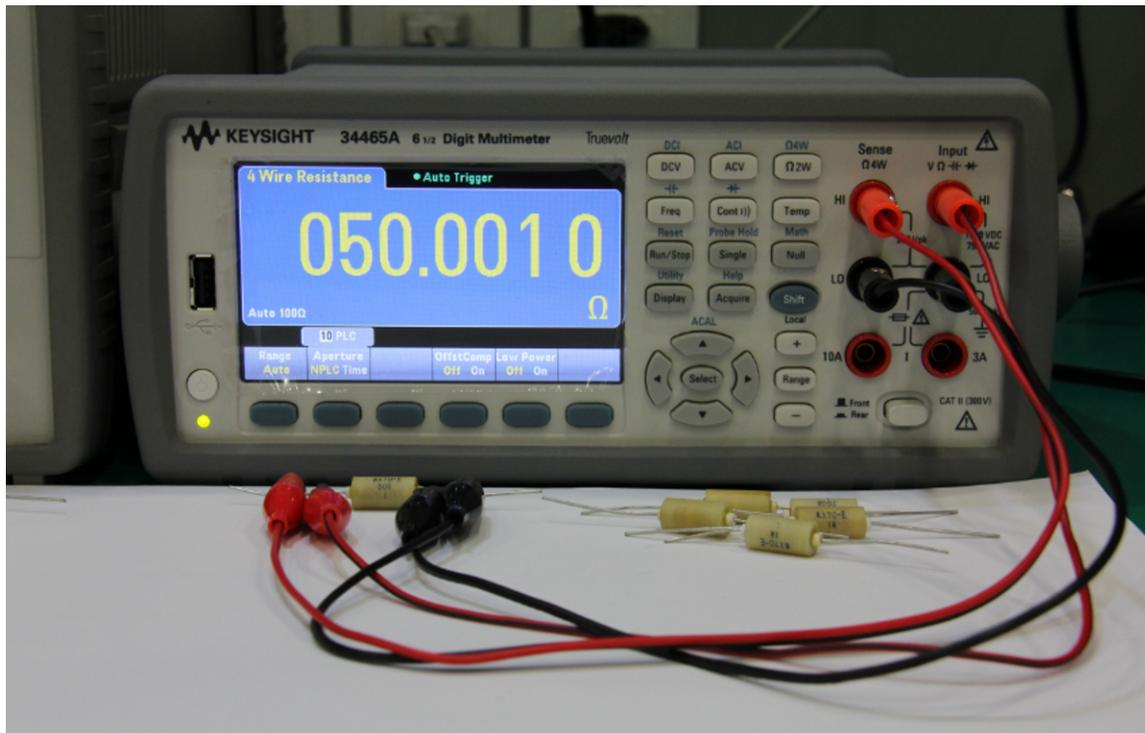
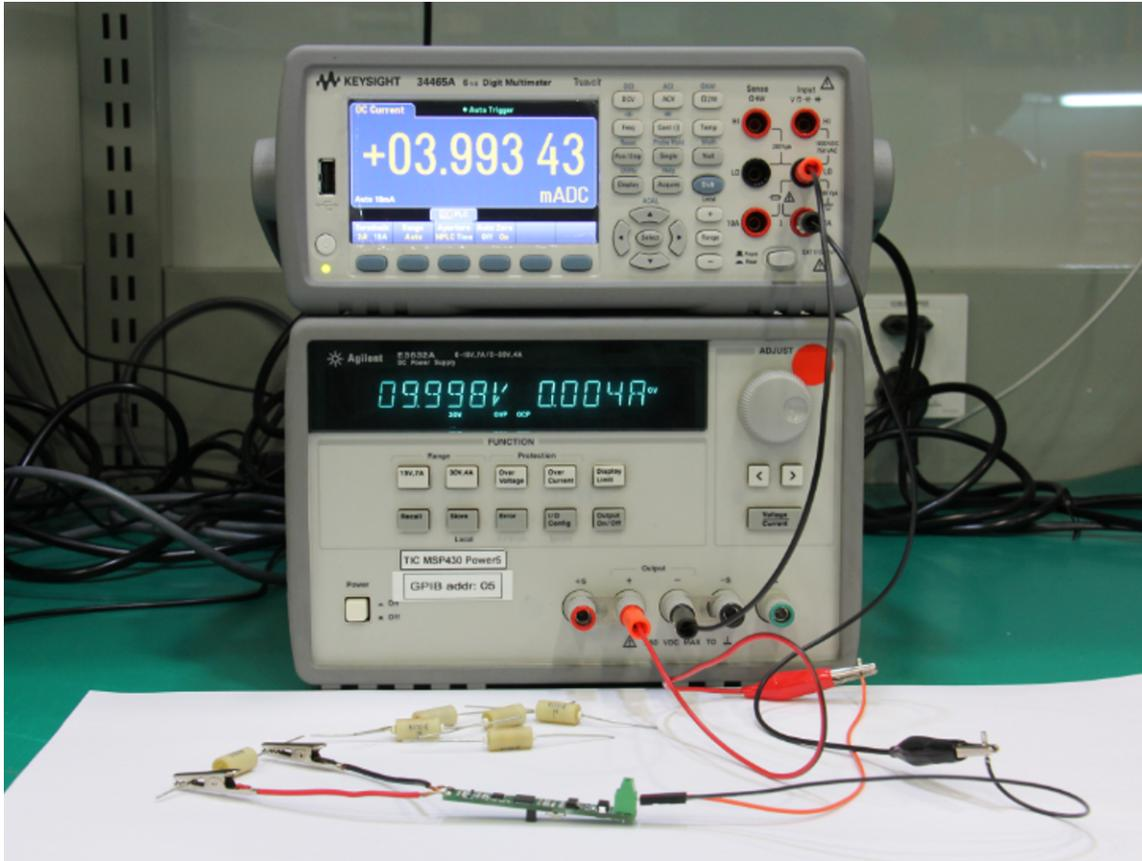

Figure 22. 4-Wire Resistance Measurement Using 6.5-Digit Multimeter
Figure 26. Complete System Maximum Measured Error Test
- 6.5-digit multimeter, to measure the high-precision resistors accurately using a 4-W resistance measurement method, as shown in Figure 22
After correcting the ADC and SAC for gain and offset calibration, a complete system characterization was performed for maximum measured error. In this setup, a power supply and 6.5-digit multimeter were used for loop current measurement. As shown in Figure 26, multiple precision-resistor values were used, covering -200°C to 850°C , similar to those used in Figure 22.